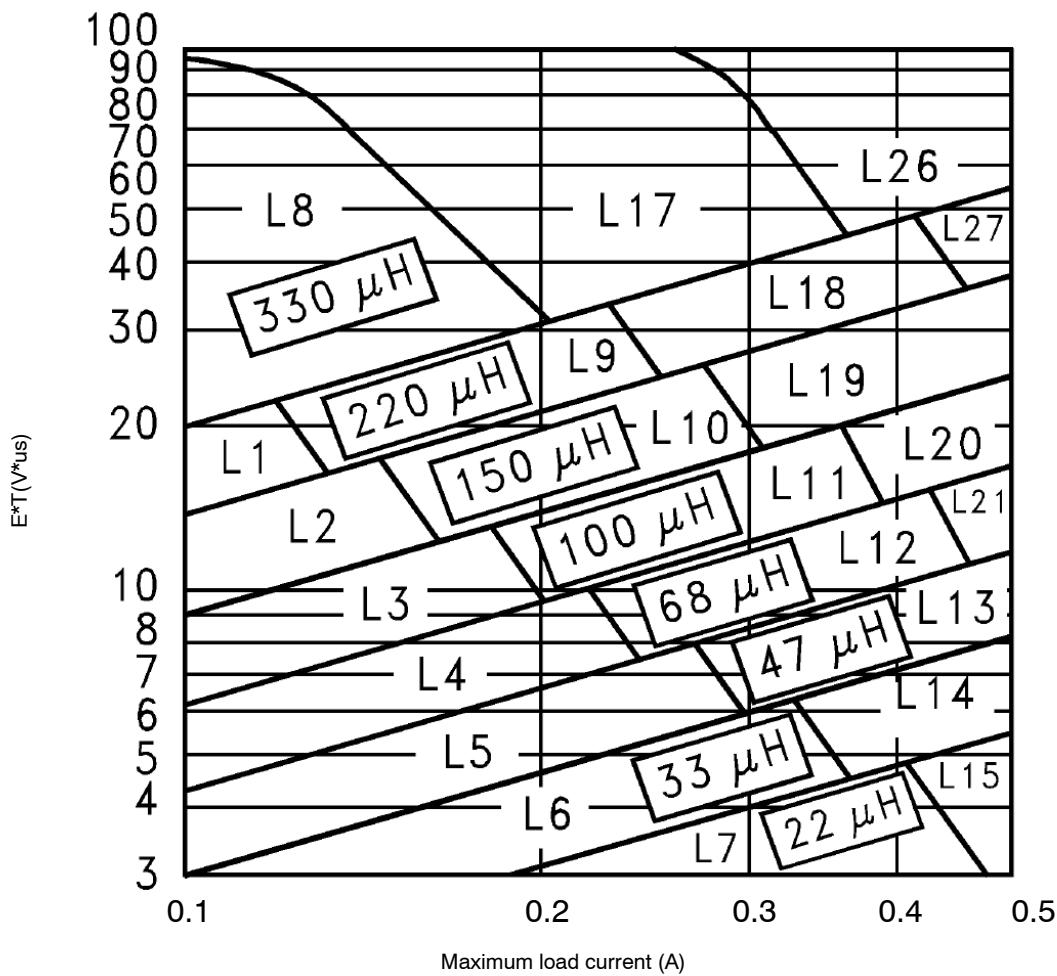

Figure 19. Inductor Value Selection Guides (For Continuous Mode Operation)
<p>4. Inductor Selection (L1)</p> <p>A. Use the following formula to calculate the inductor Volt x microsecond [V x μs] constant:</p> $E \times T = (V_{IN} - V_{OUT} - V_{SAT}) \times \frac{V_{OUT} + V_D}{V_{IN} - V_{SAT} + V_D} \times \frac{1000}{150 \text{ kHz}} (\text{V} \times \mu\text{s})$ <p>B. Match the calculated $E \times T$ value with the corresponding number on the vertical axis of the Inductor Value Selection Guide shown in Figure 19. This $E \times T$ constant is a measure of the energy handling capability of an inductor and is dependent upon the type of core, the core area, the number of turns, and the duty cycle.</p> <p>C. Next step is to identify the inductance region intersected by the $E \times T$ value and the maximum load current value on the horizontal axis shown in Figure 19.</p> <p>D. Select an appropriate inductor from Table 3.</p> <p>The inductor chosen must be rated for a switching frequency of 150 kHz and for a current rating of $1.15 \times I_{Load}$. The inductor current rating can also be determined by calculating the inductor peak current:</p> $I_{p(max)} = I_{Load(max)} + \frac{(V_{in} - V_{out}) t_{on}}{2L}$ <p>where t_{on} is the "on" time of the power switch and</p> $t_{on} = \frac{V_{out} \times 1.0}{V_{in} \times f_{osc}}$	<p>4. Inductor Selection (L1)</p> <p>A. Calculate $E \times T$ [V x μs] constant:</p> $E \times T = (12 - 5 - 1.0) \times \frac{5 + 0.5}{12 - 1 + 0.5} \times \frac{1000}{150 \text{ kHz}} (\text{V} \times \mu\text{s})$ $E \times T = (6) \times \frac{5.5}{11.5} \times 6.7 (\text{V} \times \mu\text{s})$ <p>B. $E \times T = 19.2$ [V x μs]</p> <p>C. $I_{Load(max)} = 0.5 \text{ A}$ Inductance Region = L20</p> <p>D. Proper inductor value = 100 μH Choose the inductor from Table 3.</p>
To simplify the inductor selection process, an inductor selection guide for the LM2594 regulator was added to this data sheet (Figure 19). This guide assumes that the regulator is operating in the continuous mode, and selects an inductor that will allow a peak-to-peak inductor ripple current to be a certain percentage of the maximum design load current. This percentage is allowed to change as different design load currents are selected. For light loads (less than approximately 300 mA) it may be desirable to operate the regulator in the discontinuous mode, because the inductor value and size can be kept relatively low. Consequently, the percentage of inductor peak-to-peak current increases. This discontinuous mode of operation is perfectly acceptable for this type of switching converter. Any buck regulator will be forced to enter discontinuous mode if the load current is light enough.